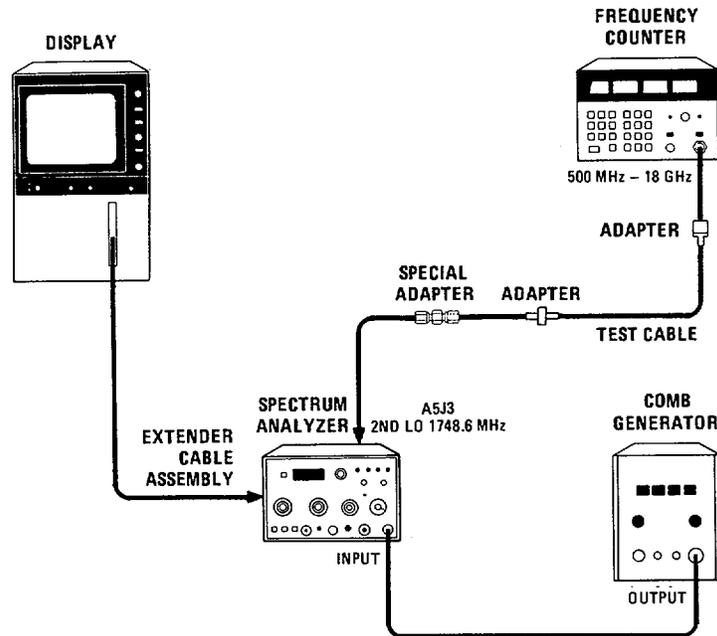
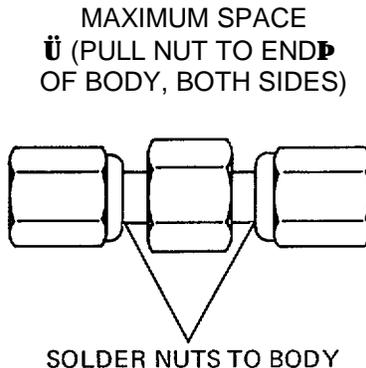

Figure 5-1. Second Converter LO and Bandpass Adjustment Test Setup
Figure 5-2. Special Adapter Used in Second Converter LO and Bandpass Test Setup
| Special Adapter.....                | See Figure 5-2 |
The special adapter in Figure 5-1 is made from a SMC (f) to SMC (f) adapter, HP Part No. 1250-1113. The nuts must be soldered to the body of the subminiature RF adapter so they will both turn with the body. Be sure to space the nuts properly before soldering (see Figure 5-2).
2. Connect equipment as shown in Figure 5-1 and switch display mainframe power ON. Connect counter to A5J3 at the top of A5 Converter Assembly. Connect comb generator to HP 8558B INPUT.